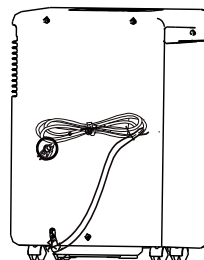

Fig. 12
- Wrap the cord and bundle it with the cable tie (Fig. 12).